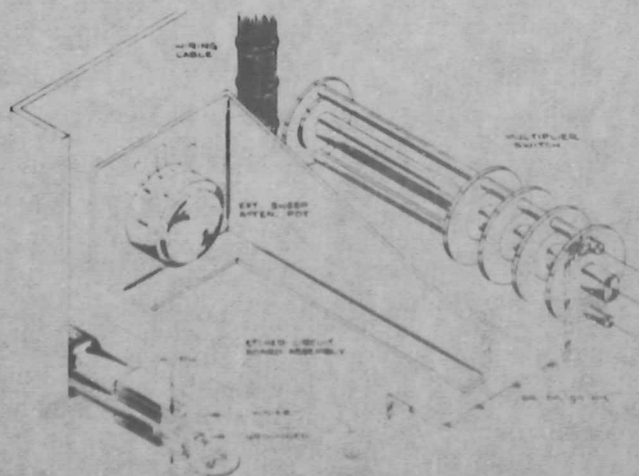

Fig. 3
- () Push the potentiometer back to allow the circuit board assembly to be mounted underneath it, as shown in Fig. 3. Align the assembly so that the circuit board is parallel to the sweep chassis.
- () 8. Solder the black-brown-green-brown wire (from assembly) to the terminal on the 4th wafer of the sweep MULTIPLIER switch that has a black-brown-green-brown wire (or wires) already soldered to it (see Fig. 3).
- () 9. Solder the white, white-blue and white-gray wires (from assembly) to the RESET-SINGLE SWEEP-NORMAL switch, as shown in Fig. 3.